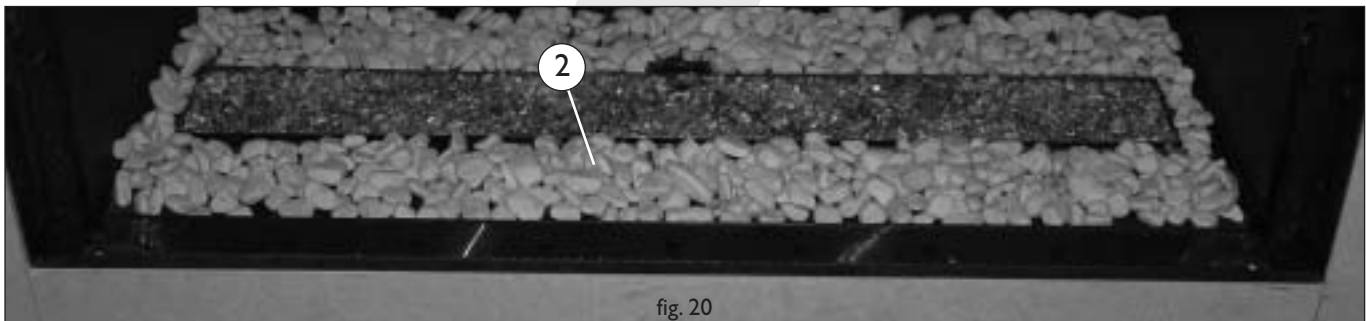

fig. 20
- Fill the burner tray and the surrounding tray with the white carrara stones (2). Distribute the stones in a single layer. Stones on top of each other will distort the flame effect (figs. 20 and 21).